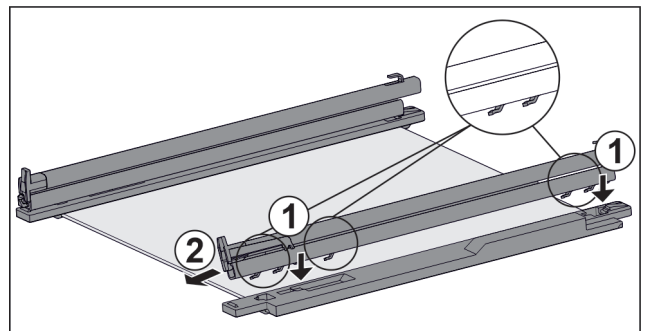

Fig. 227 Glass shelf with rails and retaining parts
- ▶ Place rail hooks onto the openings of the **left** retaining part. *Fig. 227 (1)*
- ▶ Push rail forwards. *Fig. 227 (2)*
- ▶ Place rail hooks onto the openings of the **right** retaining part. *Fig. 227 (1)*